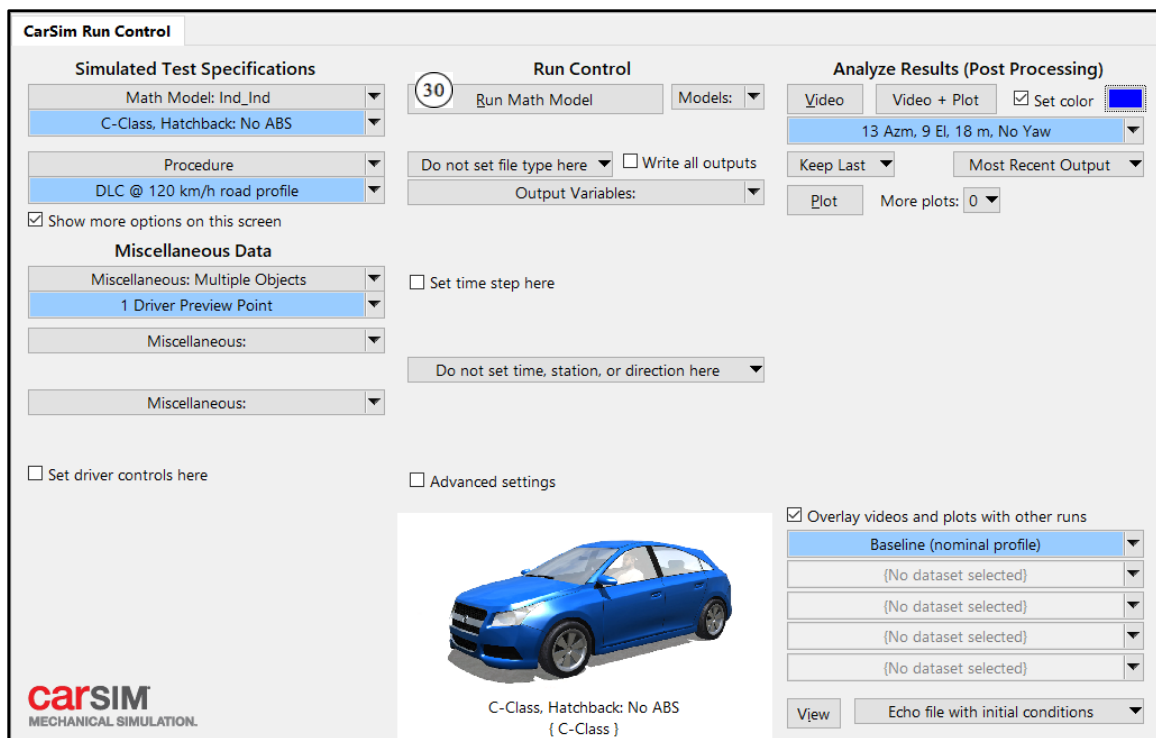

Figure 16: Run Control Screen for the Baseline (loaded profile)
The **Baseline (loaded road profile)** example with surface roughness is now ready for execution from the Run Control screen (30) (Figure 16).